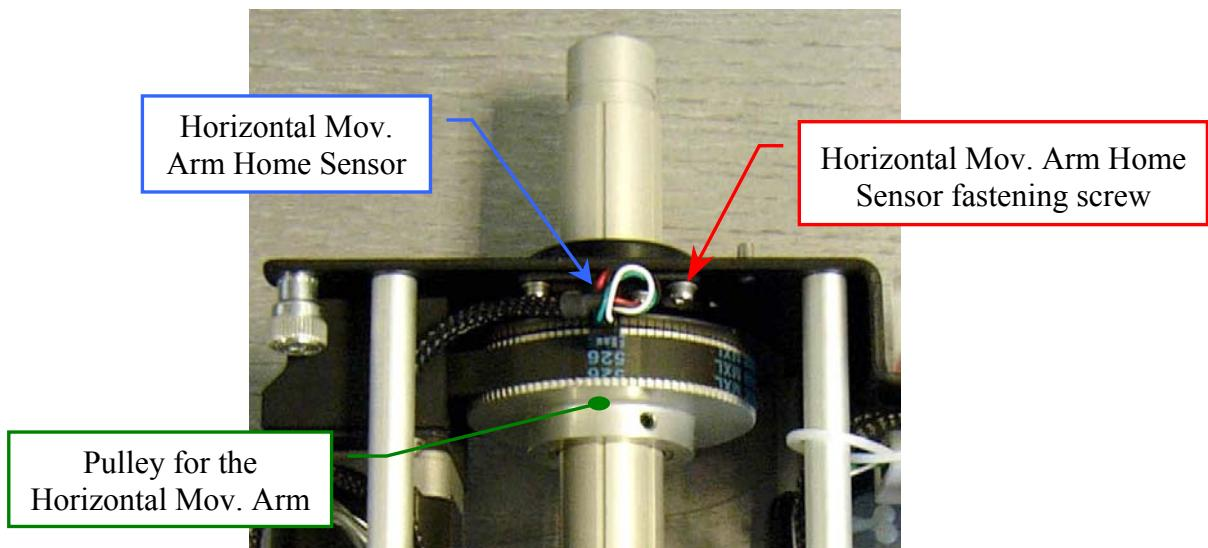

Fig. 23 – Horizontal Mov. Arm Home Sensor fastening screws
3. Unscrew the two fastening screws of the Horizontal Mov. Arm Home Sensor (**Fig. 23**) and take out it from its housing.